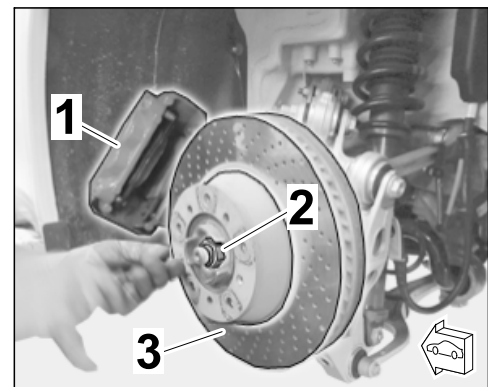

Figure 9
- 2.1.2 Unscrew brake caliper (at the left ⇒ *Figure 9 -1-/right*) from the relevant wheel carrier and suspend it in the wheel arch (⇒ *Workshop Manual '474119 Removing and installing rear brake calliper'*). Do not open the brake system!
- 2.1.4 Remove brake disc (at the left ⇒ *Figure 9 -3-/right*) (⇒ *Workshop Manual '465319 Removing and installing rear brake disc'*).